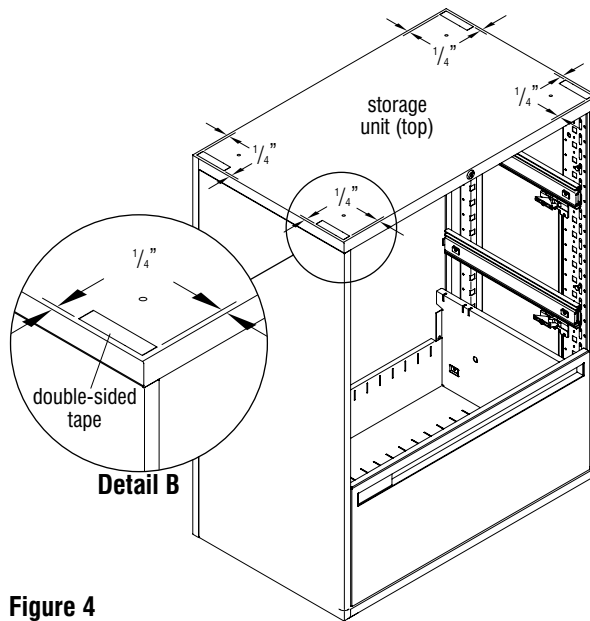

Figure 4
6. Apply 3" long strips of double-sided tape to top corners of the storage unit, about $\frac{1}{4}$ " from the edges of the front and back of each side as illustrated (Figure 4 & Detail B).